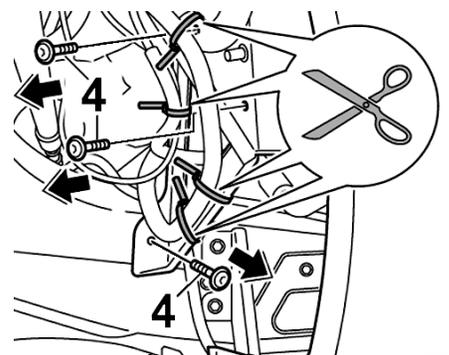

Fig. 2 Righthand support strut
5. Cut through tie-wraps securing electrical cables to support strut, **Fig. 2**.
6. Remove three fastening screws (4) for support strut and remove, **Fig. 2**.